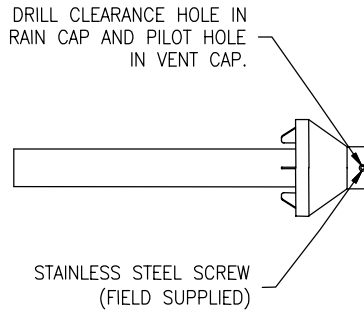

Figure 21. Rain Cap to Small Vent Pipe Ass'y
- b. Cement rain cap to smaller diameter pipe. (See Figure 21).
- Cement rain cap to smaller diameter kit pipe. (See Figure 21).